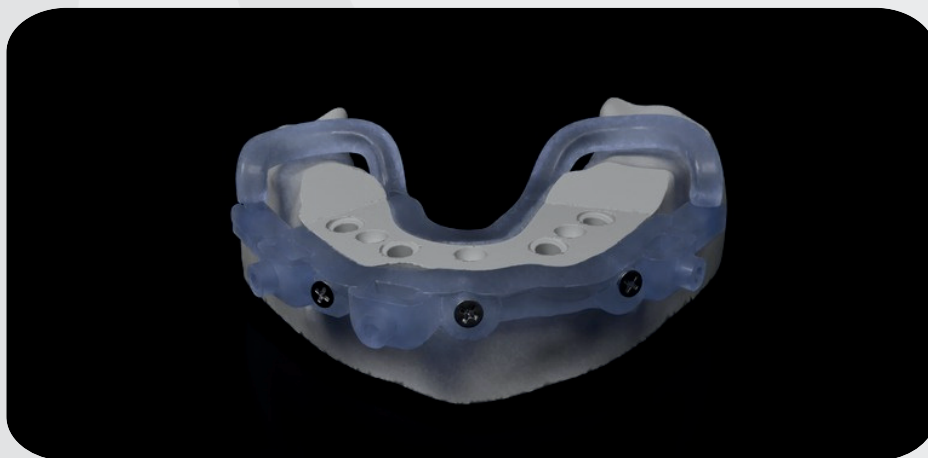

Fig. 13
Step 5: Remove the vertical verifier, score the labial plate of bone using a round bur, and reduce the bone to the level designated by the bone foundation guide's level. (Fig. 13)